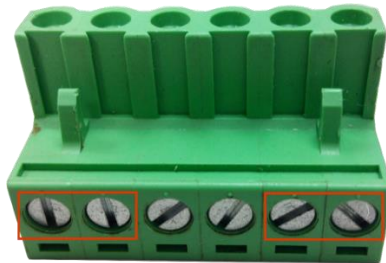

Figure 2.10: Power Terminal Block
Step 2. Tighten the wire-clamp screws to prevent the wires from loosening, as shown below in Figure 2.10.